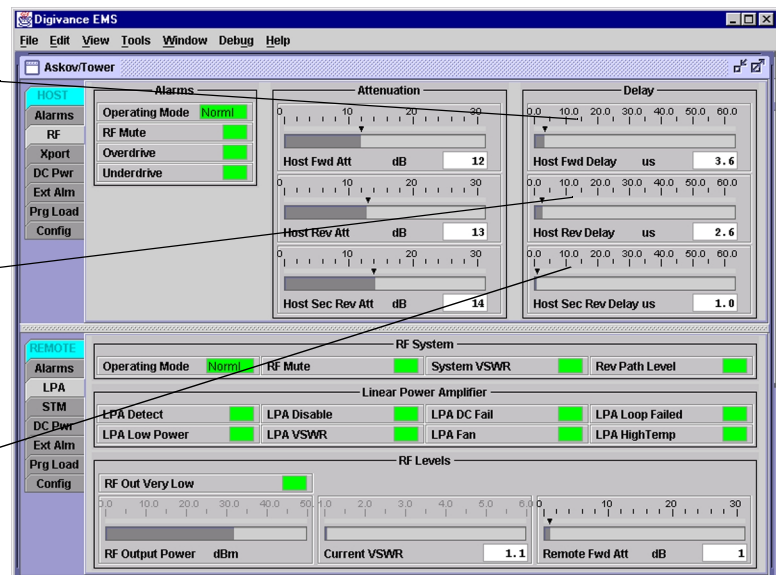
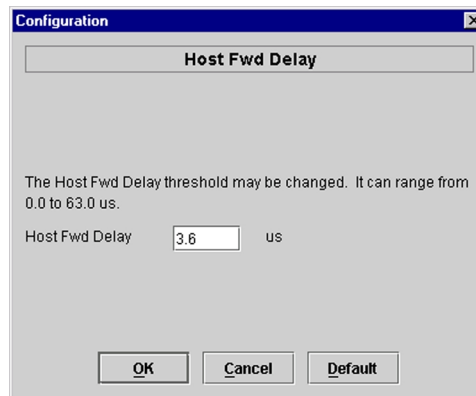

Figure 4-14. HOST RF Display
Figure 4-15. Host Fwd Delay Pop-Up Screen
1. Click on the HOST RF tab. The HOST RF display will open within the EMS main window as shown in Figure 4-14.
2. Right-click on the **Host Fwd Delay** section of the display (see Figure 4-14). The **Host Fwd Delay** pop-up screen will open as shown in Figure 4-15.
5. Repeat the process for reverse delay and diversity reverse delay by right-clicking on the appropriate delay section (see Figure 4-14) and then entering the required delay value in the pop-up screen.